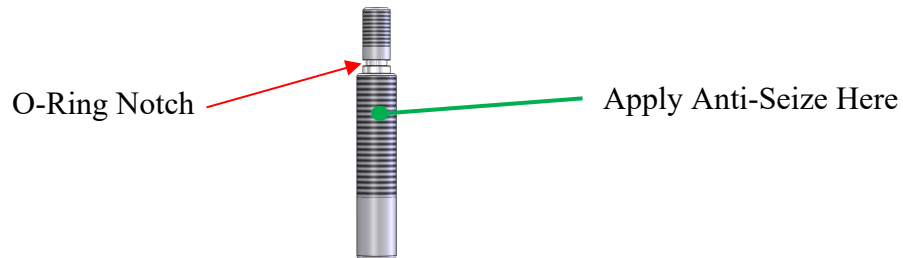

Figure 50: Adjustment Screw
15. Carefully place the adjustment screw o-ring onto the adjustment screw, making sure not to cut the o-ring. See Figure 50.